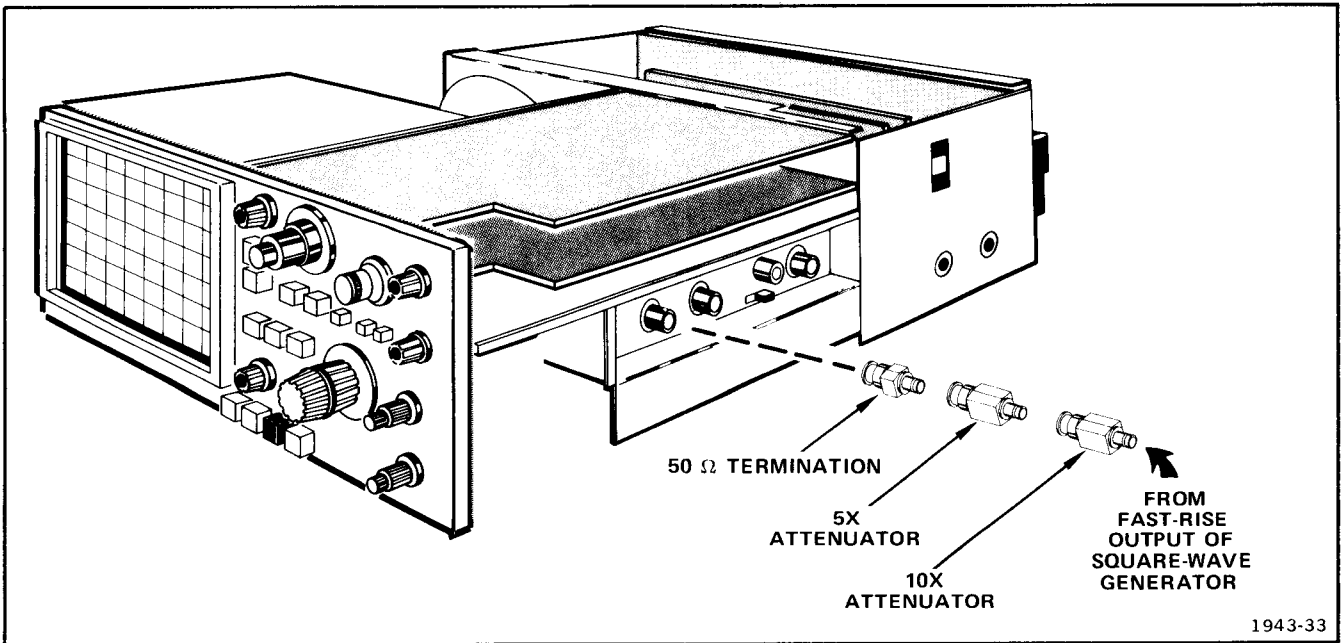

Fig. 6-9. Equipment setup.
a. Connect equipment to CH 1 VERT INPUT connector as shown in Fig. 6-9. Add or remove attenuators as needed to maintain a 5 division display.